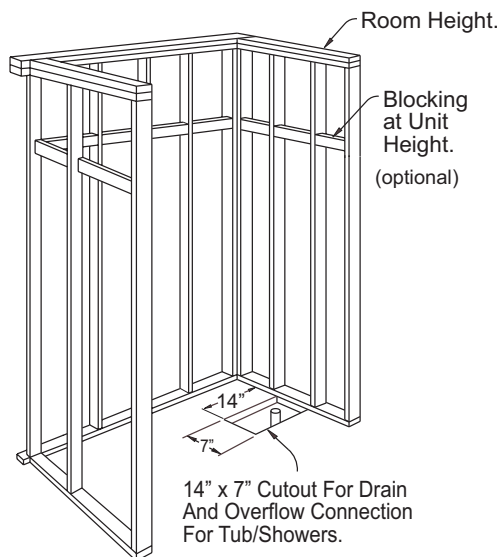

Figure 1
2. Review Figures 1, 2 and 3 to make sure alcove is the proper size. If a fire rated alcove is required, adjust framing size to compensate for approved finish materials. Fire rated materials must be installed prior to unit installation.